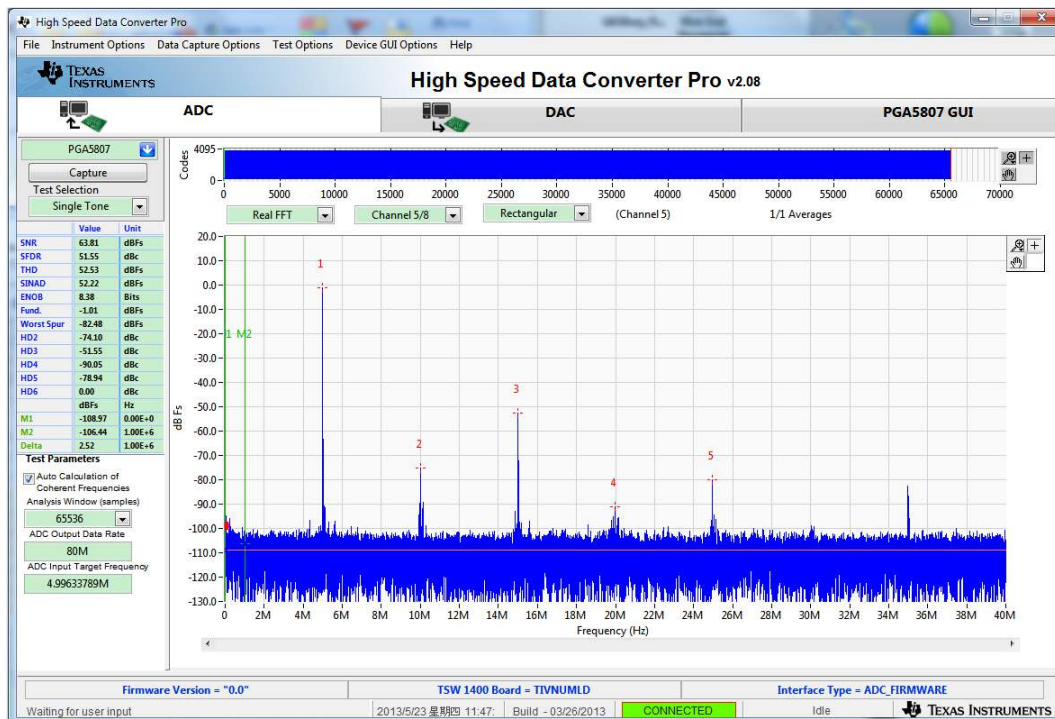

Figure 45. PGA5807A + ADS5296A SNR, THD, Gain Test Capture 1
- Click on the *ADC* tab and press *Capture* to see result similar to Figure 45. Take note of the *Fund.* value in the table to the left. In a similar manner to that described in Section 4.3, the input signal amplitude to the PGA5807A should be adjusted and a re-capture done iteratively until the *Fund.* value is approximately -1.0 dBFs. As -1.0 dBFs is the ADC level at which datasheet specifications are set, the *SNR* and *THD* of the signal chain can be taken from the table to left at this value of *Fund.*